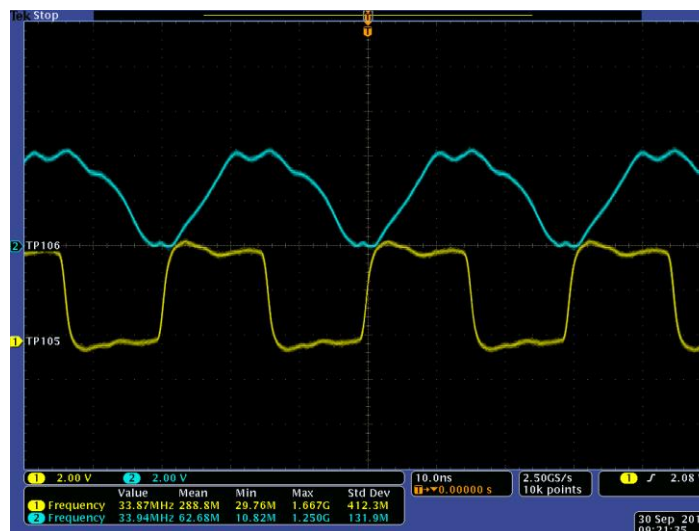

Figure 4.10. Output clocks with Different Slew Rate (Frequency Setting is 33.25 MHz)
5. After the programming is successfully completed, you can use oscilloscope to probe **TP105** and **TP106** again. Different clock waveforms are shown as Figure 4.10. With the same frequency, **TP105** outputs clock signal with faster ramp speed on both rising edge and falling edge.